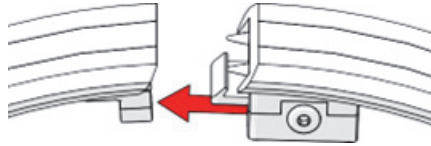

Figure 1-21 Close the latch
3. Connect the band by pressing the two ends together to engage the latch (see Figure 1-21 on page 40).